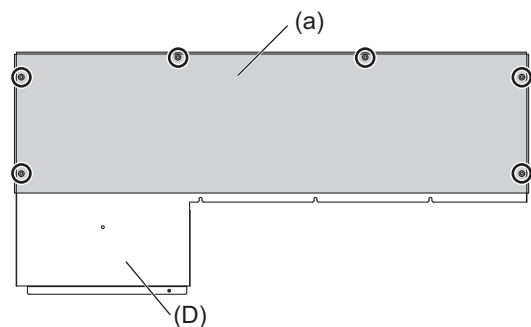

Fig.13
- ◆To avoid dew condensation, use insulated screws in the places marked with circles in Fig.13.